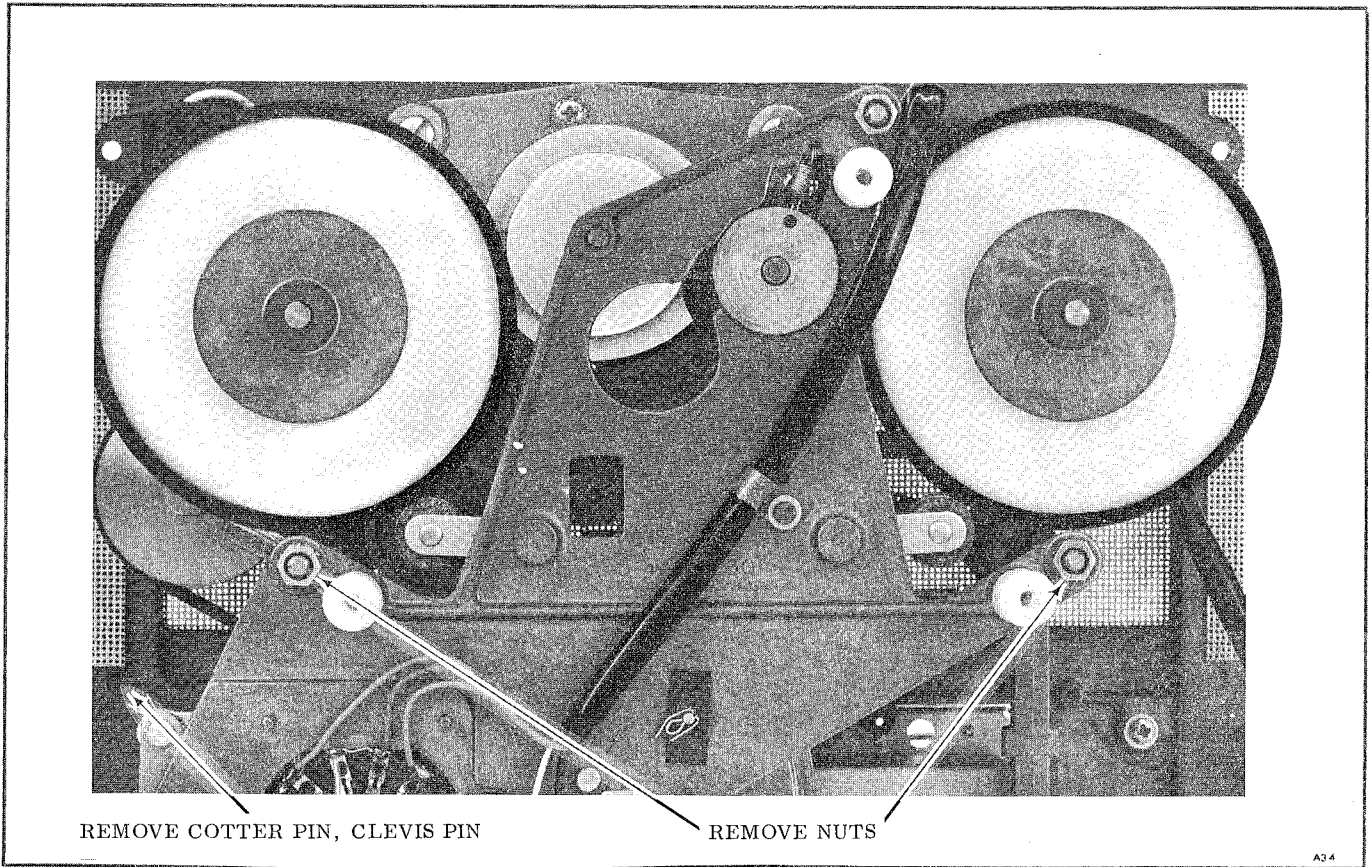

Figure 5-5. Transport Subplate Removal
5.19 REMOVING SUBPLATE (See Figure 5-5)